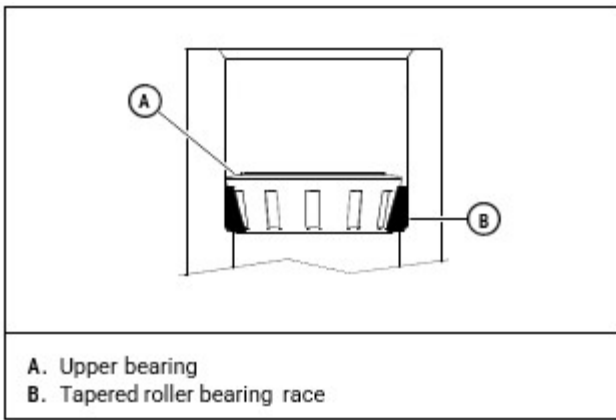

Figure 33
10. Install the upper bearing. [Figure 33]